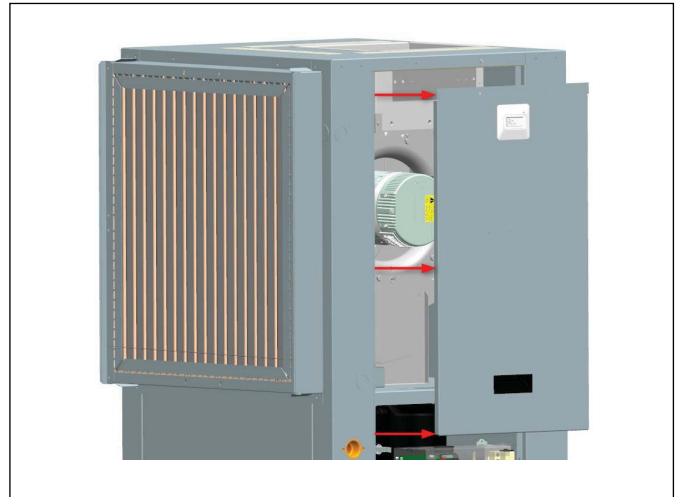

Figure 12
10. Remove the top panel (figure 12).